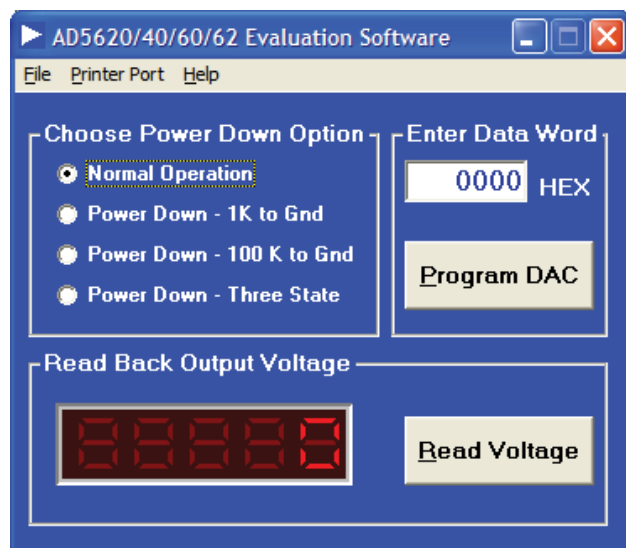

Figure 2. Main Window
2. Select a part number and click **OK**. The main window opens, as shown in Figure 2.